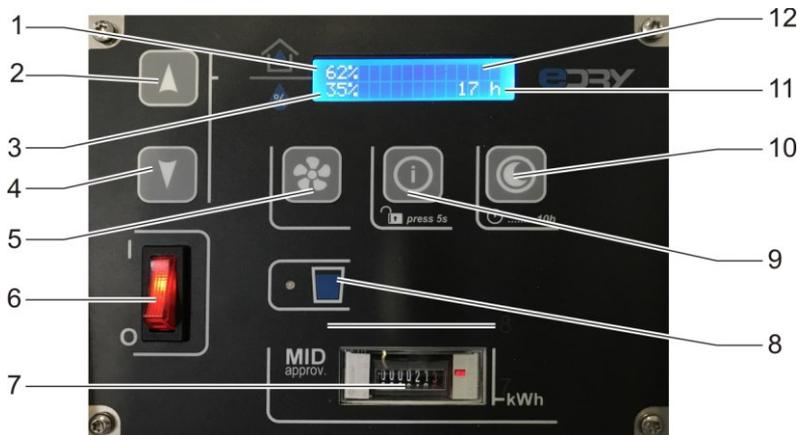

Fig. 8: Operating panel
3. Press the On/Off button (Fig. 8, item 6) on the operating panel. If the air dehumidifier has been correctly connected and the existing humidity is higher than the set humidity value, the air dehumidifier will start to work. The last values for hygostat, language and fan step are taken over, where applicable.